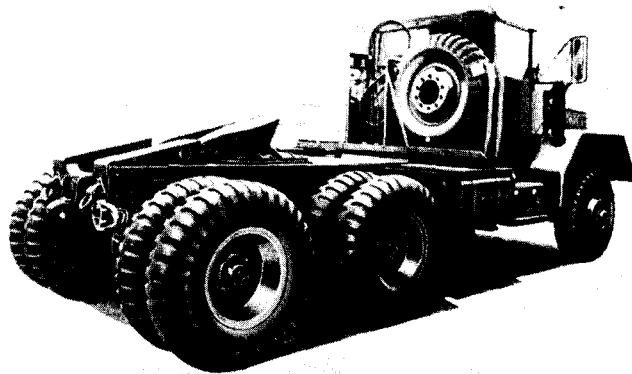

Figure 2-7. Truck, tractor, 5-ton, 6x6, M818.
g. Truck, Tractor, M818 (Fig 2-7). This truck has a 167-inch wheel base, with a universal 33-inch fifth wheel and approach and deck